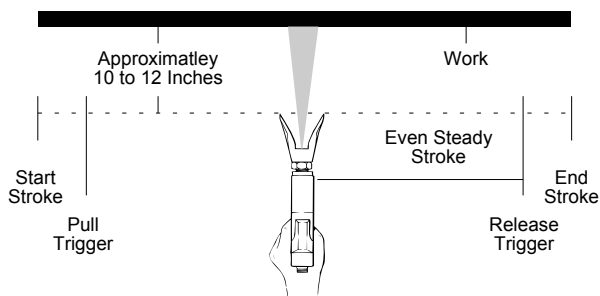

Figure 10. - Proper way to trigger spray gun.
7. The spray gun should be triggered (turned off and on) on each stroke. This will save paint and avoid paint buildup at the end of the stroke. However, do not trigger during the middle of a stroke. This will result in an uneven spray and splotchy work. See Figure 10 for proper triggering on a left-to-right stroke. Reverse for a right-to-left stroke.
8. Move the spray gun at a rate of speed that is comfortable for you. If you have to move your arm too fast in order to prevent excessive paint buildup, either (1) lower the pressure by turning the pressure control knob counterclockwise, or (2) use a spray tip with a smaller hole. If you have to move your arm too slow in order to get a good coating, either (1) raise the pressure by turning the pressure control knob clockwise, or (2) use a spray tip with a larger orifice. You should always keep the spray gun moving when making a stroke. Slowing down in one place will cause sags or runs.